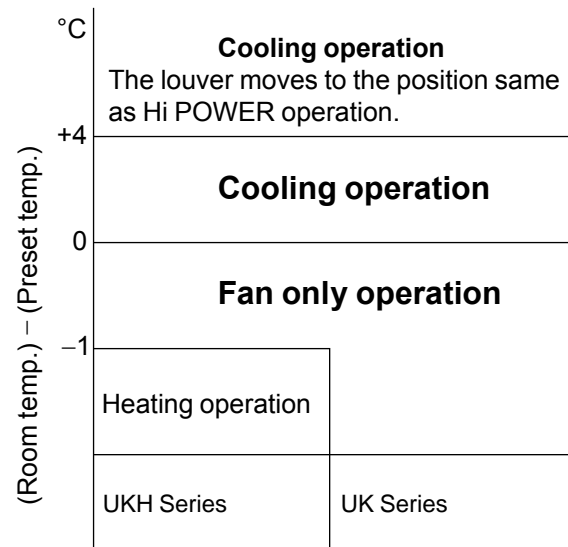

Fig. 7-2-9
- (1) One of 3 operations (Cooling, Fan only or Heating) is selected according to difference between the preset temperature and the room temperature at which the automatic operation has started, as shown in Fig. 7-2-9. The Fan only operation continues until the room temperature reaches a level at which another mode is selected.
- (2) Temporary Auto
When the [TEMPORARY] button on the indoor unit is pushed, the preset temperature is fixed at 24 °C and the indoor unit is controlled as shown in Fig. 7-2-9.